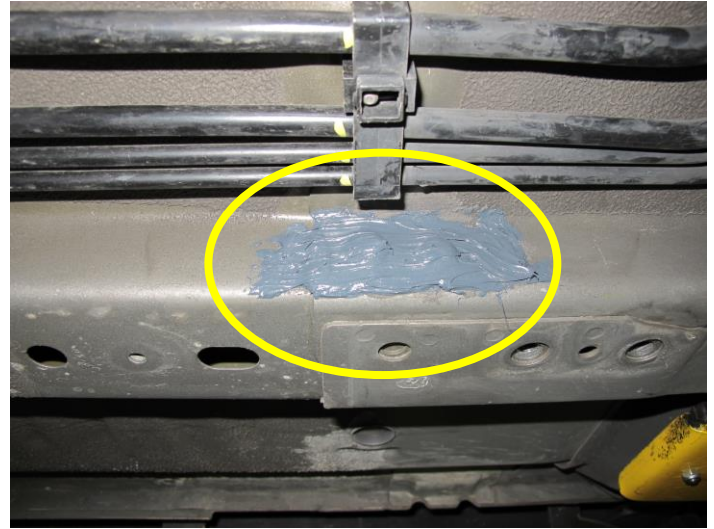

Figure 12
12. Apply LORD Fusor® high definition sealer P/N 805HD to the (LH) front frame member covering pop rivets **on both sides** (Figure 12).